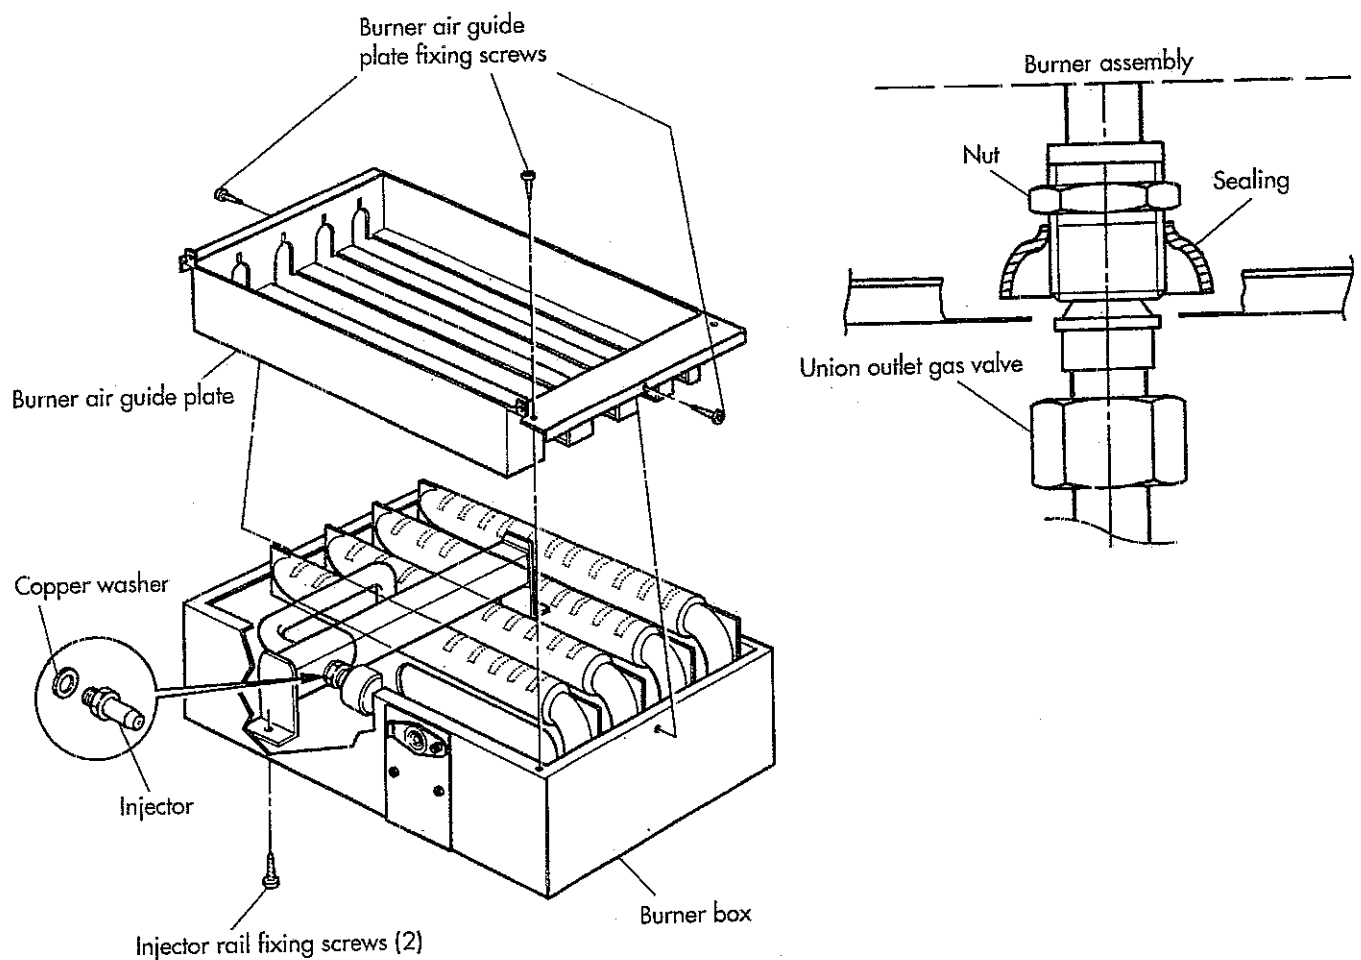

Fig. 48
- c) Unscrew burner inlet union connection (fig. 48).
- f) Remove the three screws securing the burner air guide plate (see fig. 48).
- g) Remove the two screws securing the injector rail (fig. 48) and remove the injector rail complete with burners.
- o) Re-assemble in reverse order. Refer to fig. 48 for replacement of spring rods and refer to wiring diagram fig. 25 for re-connection.
- h) Re-assemble in reverse order (refer to fig. 48 for replacement of spring clip and refer to fig. 25 for wiring).
- 2.6 Remove the combustion chamber front panel by unscrewing the two fixing screws (fig. 48).
- 2.7 Remove the two screws securing the burner assembly box (fig. 48).
- 2.19 Remove the spring clip securing the flue hood to the flue and push the flue pipe upwards (fig. 48) and latch it in the flue to keep it out of the way.
- 2.20 Pull out the two fixing rods from the side of the flue hood (fig. 48). Gently lift the flue hood out.